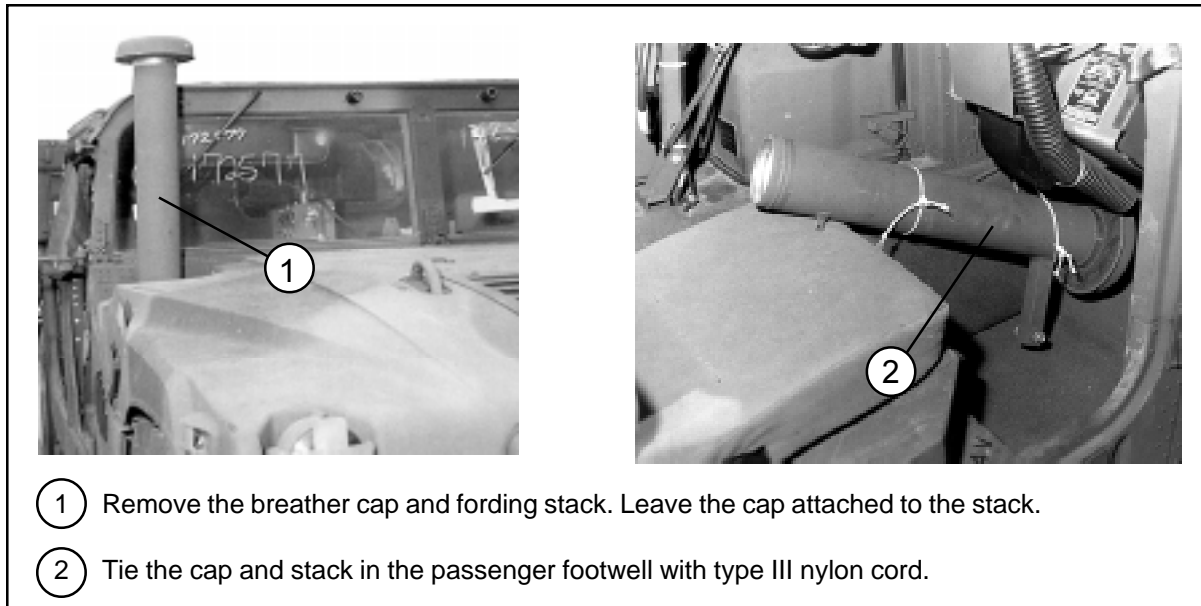

Figure 4-7. Fording Kit Removed and Stowed
e. Remove the breather cap and fording stack and stow them in the truck as shown in Figure 4-7.